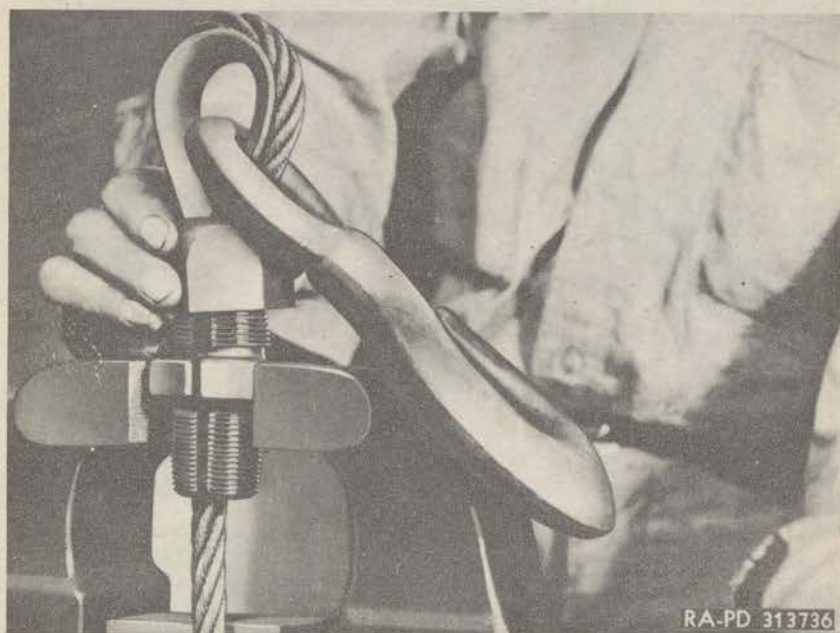

Figure 184—Installing Cable Clamp
c. **Install New Cable on Hook.** Slide the two coupling nuts over the end of the new cable with the flat sides facing each other, then run the end of the cable through the eye of the hook and fold it back over the thimble. Clamp the end of the cable against the cable at the end of the eye, and slide the lower coupling nut down as far as it will go. Install the two halves of the cable clamp and tighten the two coupling nuts over the threads of the clamp (fig. 184).